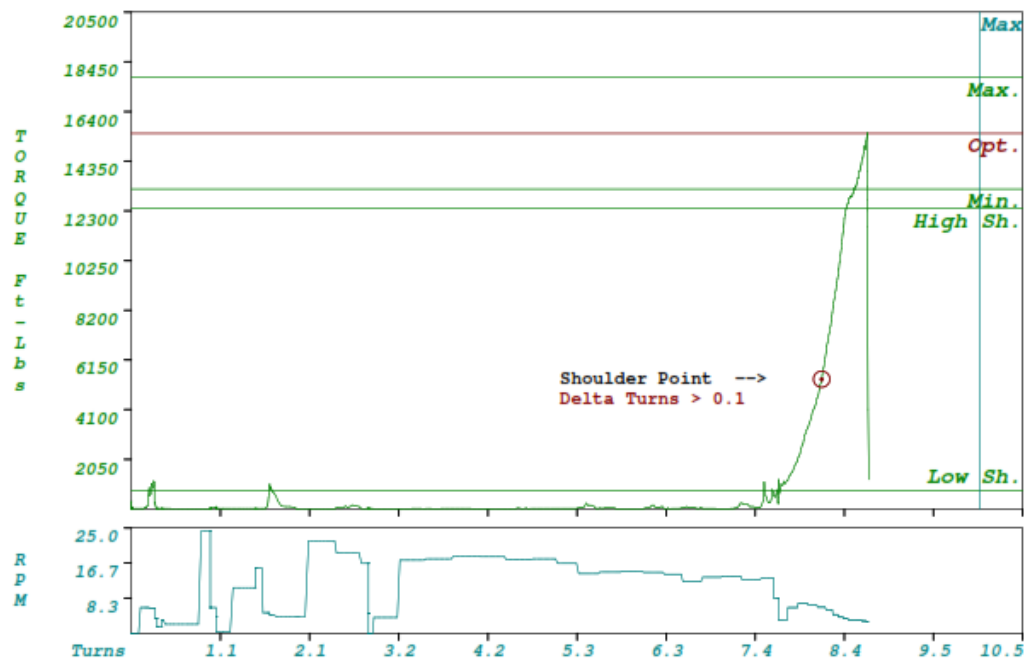

Figure 8: Unacceptable Make-Up Graph Example 1
- 4.21 Once the Constrictor® Lock Point is achieved, the graph should continue a linear profile with no decrease in slope. See figures 8, 9, and 10 for examples of unacceptable graphs where a decrease in slope is observed after the Constrictor® Lock Point.